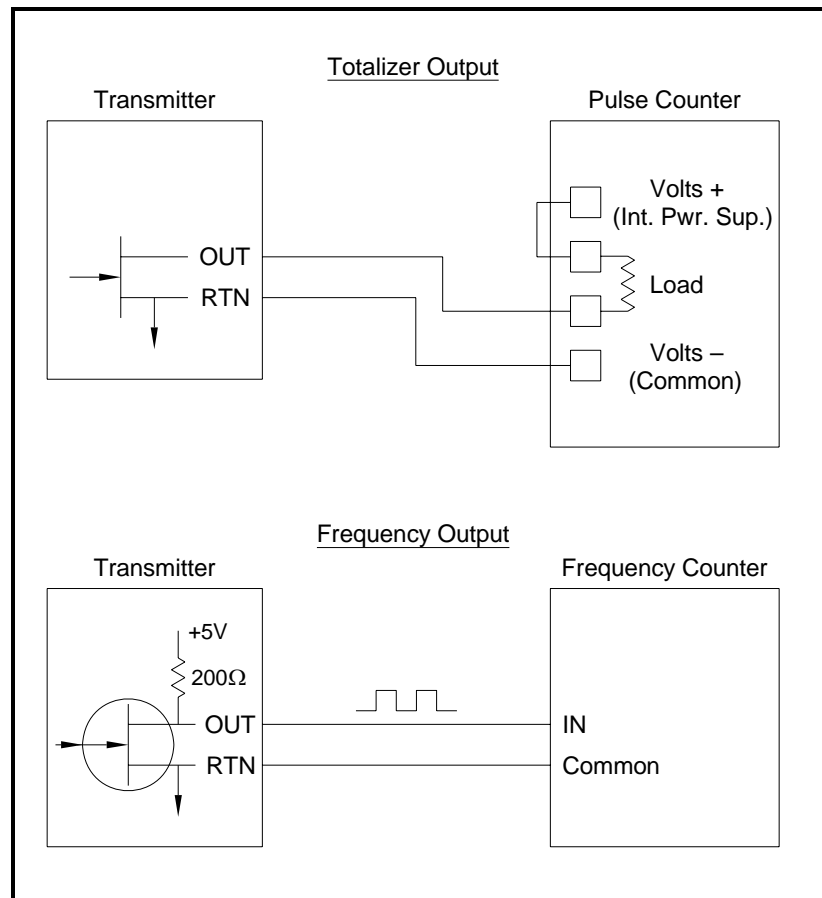
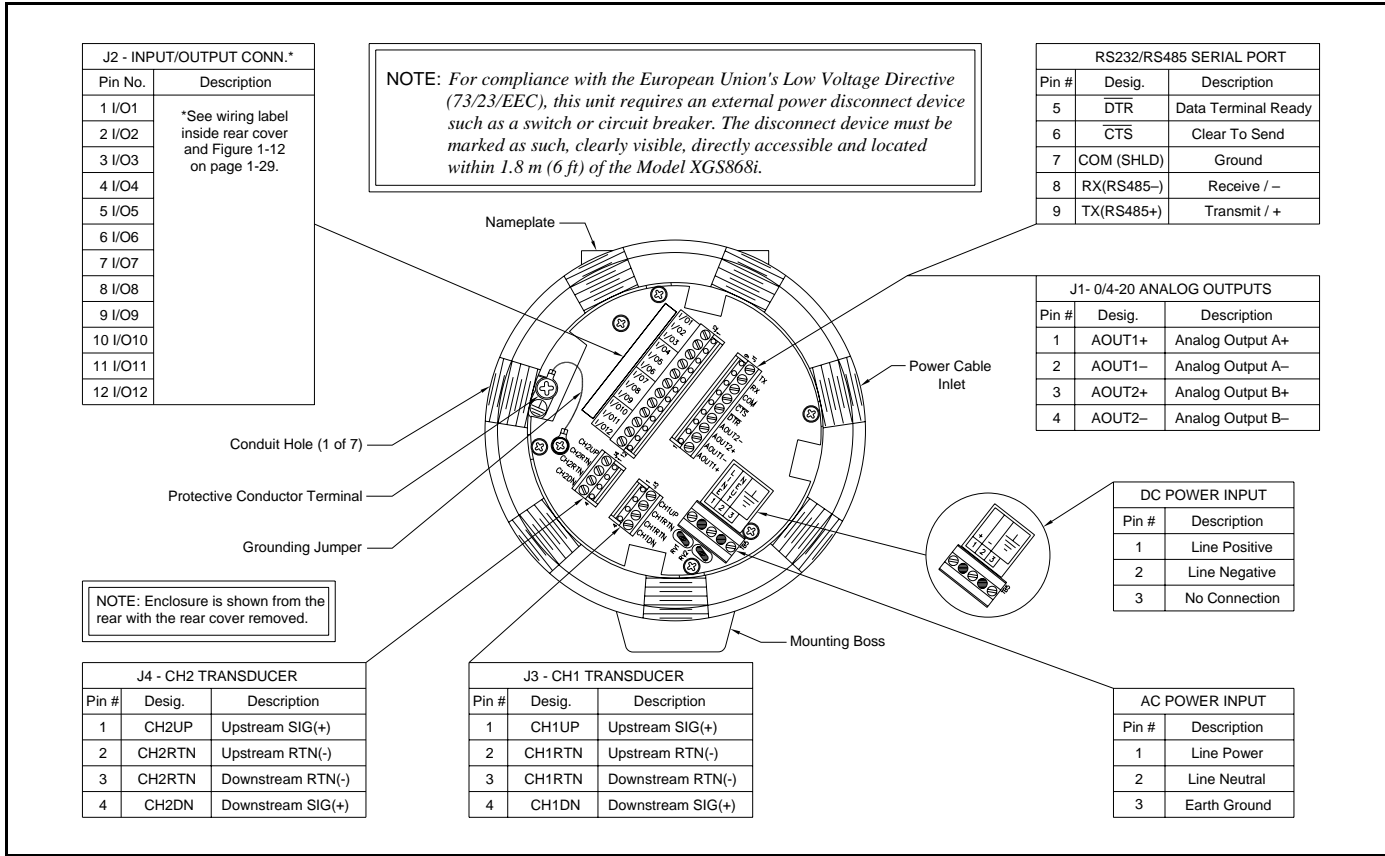
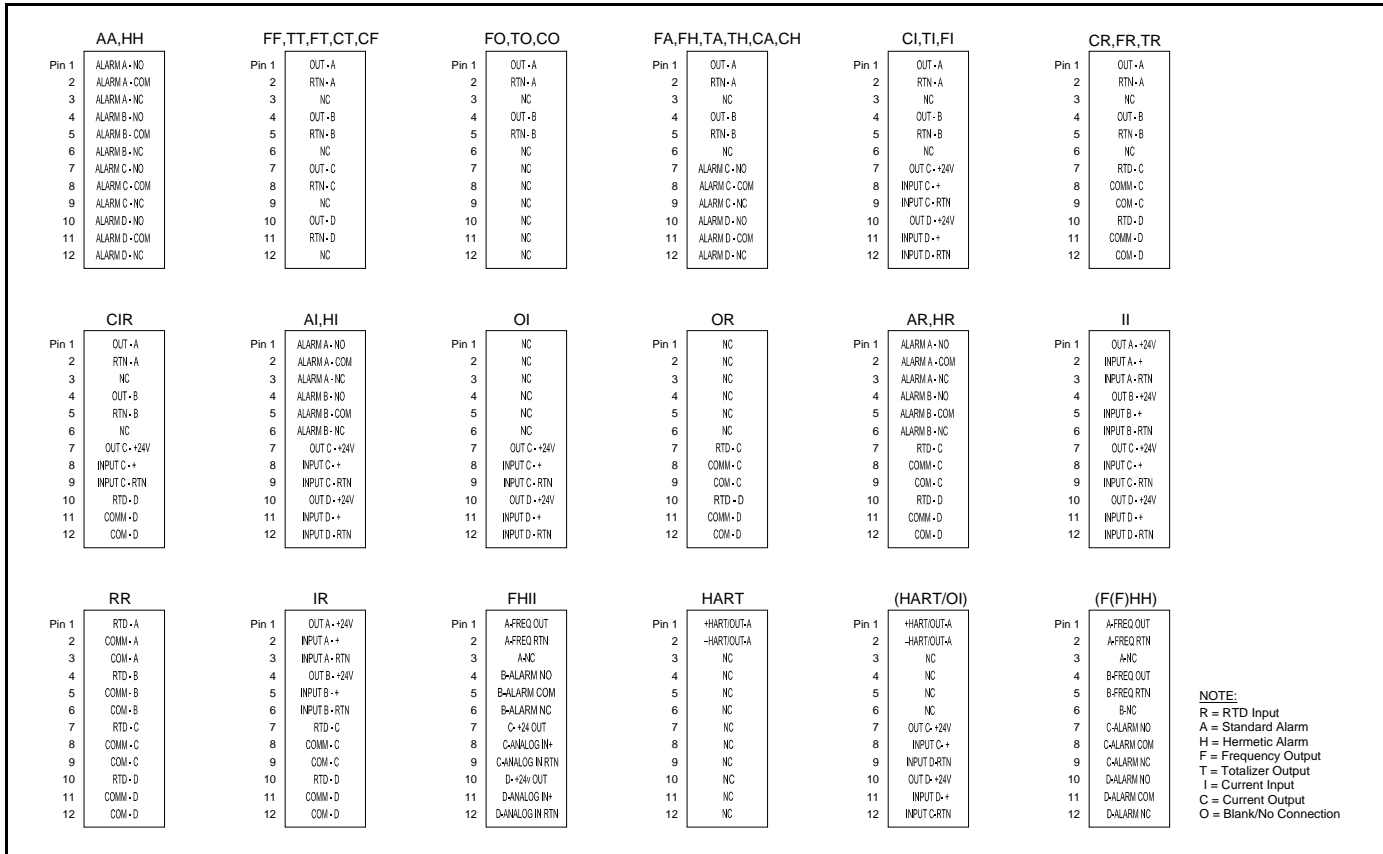

Figure 1-6: Totalizer/Frequency Outputs Wiring
Figure 1-10: Model XGM868i Wiring Diagram
Figure 1-11: Option Card Connection Labels (ref. dwg #442-615)
3. Locate the 12-pin terminal block (J2) in Figure 1-10 on page 1-27 and wire the option card as indicated on the label inside the rear cover (see Figure 1-3 on page 1-7 and Figure 1-11 on page 1-28). Secure the cable clamp.
Before making any connections, complete the steps in *Preparing for Wiring* on the previous page. Connect each alarm relay in accordance with the wiring instructions shown on the label inside the rear cover (see Figure 1-3 on page 1-7 and Figure 1-11 on page 1-28).
Before making any connections, complete the steps in *Preparing for Wiring* on page 1-16. Wire the analog inputs as shown on the label in the rear cover (see Figure 1-11 on page 1-28).
Before making any connections, complete the steps in *Preparing for Wiring* on page 1-16. Then, wire this option card in accordance with the connections shown on the label in the rear cover (see Figure 1-3 on page 1-7 and Figure 1-11 on page 1-28). Figure 1-6 below shows sample wiring diagrams of a totalizer output circuit and a frequency output circuit. Refer to *Electrical Specifications* on page 4-2 for load and voltage requirements.
The Model XGM868i RTD (Resistance Temperature Device) inputs option card provides two or four direct RTD inputs (designated as A, B, C and D). Each RTD input requires three wires, and should be connected as shown on the label in the rear cover (see Figure 1-3 on page 1-7 and Figure 1-11 on page 1-28).
Before making any connections, complete the steps in *Preparing for Wiring* on page 1-16. Then, wire this option card with the connections shown on the label in the rear cover (see Figure 1-3 on page 1-7 and Figure 1-11 on page 1-28).
By referring to Figure 1-11 on page 1-28, it is determined that the appropriate connection diagram for this option card is the second one from the left in the middle row (A1,H1). This label should also be found inside the rear cover of the XGM868i. Based on this information, wiring of the Input/Output connections to terminal block J2 should be completed as shown in Table 1-4 on the following page.
IMPORTANT: *Because the MODBUS option card uses pins 1 and 2 on terminal block J2, only those option cards that do not use these pins may be installed in Slot 1, while a MODBUS card is installed in Slot 2. Specifically, only the option cards designated as “OI” and “OR” in Figure 1-11 on page 1-28 are compatible with the MODBUS option card.*